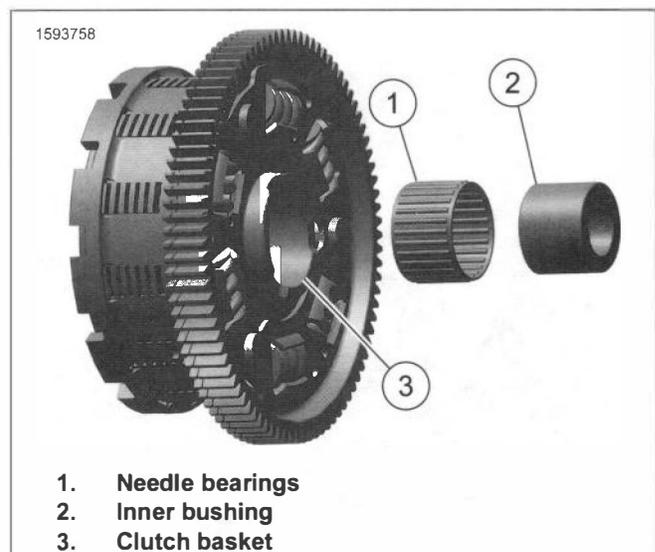
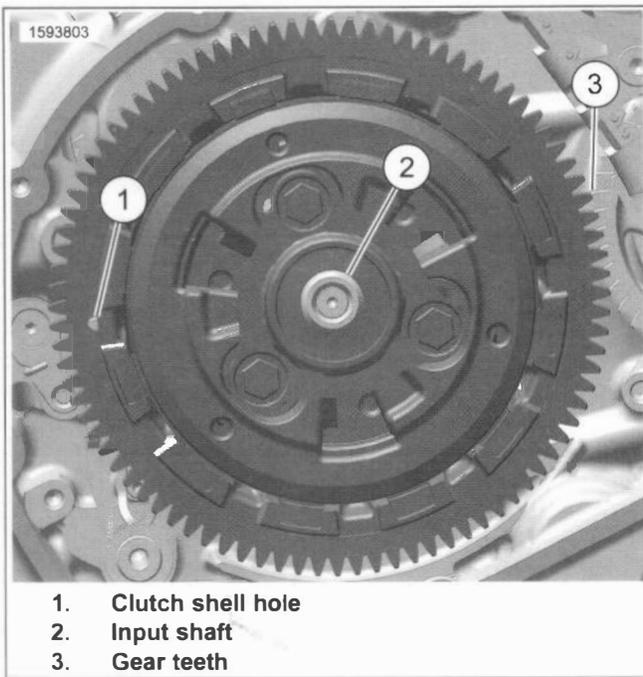

Figure 5-18. Clutch Basket Bushing and Bearings
Figure 5-19. Install Clutch Assembly
- See Figure 5-18. Apply engine oil to needle bearings (1) and inner bushing (2).
- Install into clutch basket (3).
- See Figure 5-19. Keep inner bushing and bearing assembly together, install clutch basket and bearings onto input shaft (2).
- Using suitable awl or screwdriver apply pressure to the spring through clutch shell hole (1) and align teeth (3).